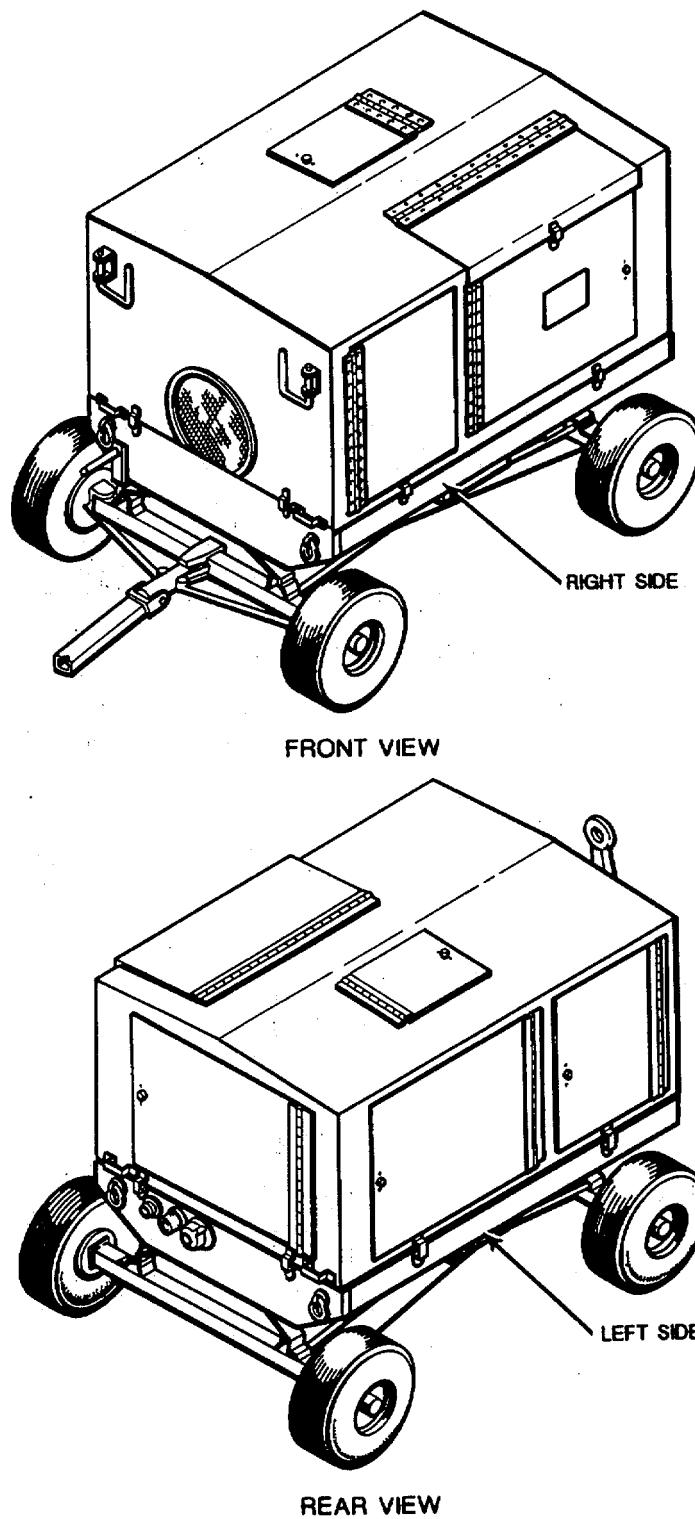

Figure 1-1. Test Stand Hydraulic System Electric Motor Drive, Type-D-6A
- a. The test stand (Figure 1-1) incorporates one hydraulic piping system and a high pressure pump. The pump is driven by a 20 horsepower, 220/440 volt, 60 hertz, 3-phase motor.
- 1-11. **Trailer and Running Gear Assembly.** The trailer frame is welded steel construction. The trailer rolls easily on four steel wheels equipped with 6.00/6.90-9.6 ply tires. Transverse leaf springs and radius rods attached to the front and rear axles cushion the stand against road shock and rough terrain, protecting the components of the test stand. A hinged towbar permits ease of positioning of the test stand and towing. The towbar can be latched in the upright position. Front wheel steering is the conventional type with steering knuckles, tie rods, and king pins. A hand lever (Figure 1-1) sets the rear wheel brakes, holding the test stand stationary when not being moved. Tiedown rings (Figure 1-1) at each corner of the trailer frame permit tiedown of the test stand for storage or shipment.